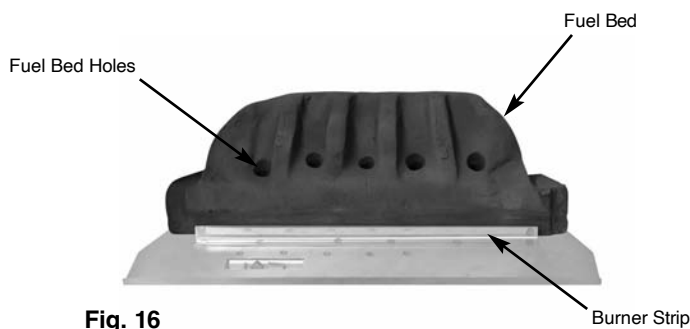

Fig. 16
1. Place the main fuel bed on to the back section of the metal burner tray. It is important that the front edge of the fuel bed is located behind the burner strip, and the holes in the fuel bed line up with the holes in the Burner tray (Fig. 16).